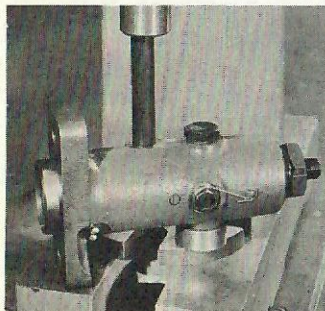

FIG. 66-1
10. Excessive wear in the pump rack bushings can be detected by shaking the rack. Any abnormal side movement is an indication that the bushing should be replaced. In order to do this, the pump should be completely dismantled. Place the pump on an arbor press and with a bushing removal tool press out one bushing, Fig. 66-1. It should be noted that the shank diameter of this tool is slightly smaller than the outside diameter of the bushing. Remove the pump from the press and allow the old bushing to fall out of the base opening of the pump. Place the pump back on the press and remove the second bushing.